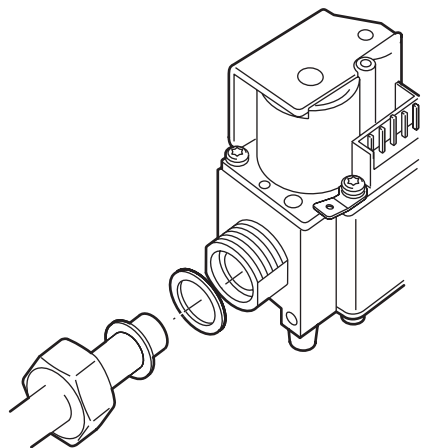

Fig. 6. External thread connection with nut and "O"-ring
- ④ With $\frac{3}{4}$ " nut and "O"-ring (fig. 6)